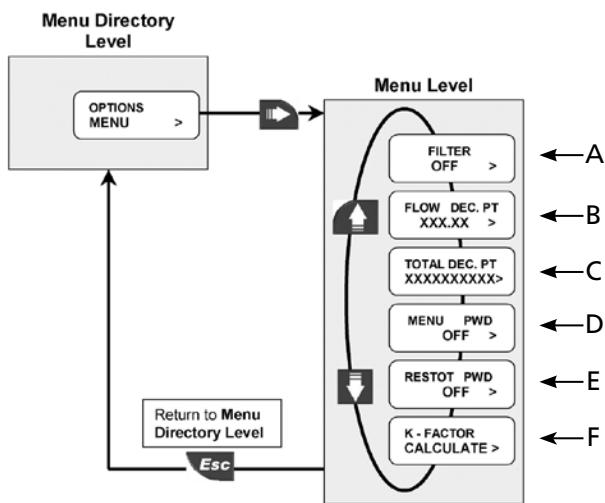

Figure 17 – Options Menu
1. To select the averaging level of LCD, output and relay response (see Figure 17, A).
2. To set the flow rate decimal point position (see Figure 17, B).
3. To set the totalizer decimal point position (see Figure 17, C).
4. To set ON or OFF password protection to enter Menu Levels (see Figure 17, D).
5. To set ON or OFF password protection to reset totalizer (see Figure 17, E).
6. To perform automatic calculation of K-Factor (see Figure 17, F). **K-Factor Calculate**